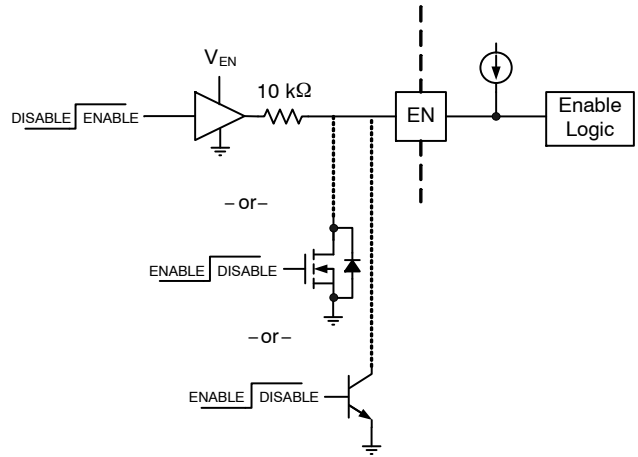

Figure 27. Enable Circuits: Push-Pull, Open-Drain, or Open-Collector
The device has an enable pin (EN) with internal 50 μA pullup current. This gives the user the option of driving EN with a push-pull or open-drain/collector enable signal. When driving EN with an external logic supply a 10 kΩ series current limiting resistor must be placed in series with EN. See Figure 27. The maximum enable threshold is 3.4 V. If no external drive voltage is available, the internal pullup can be used to enable the device, and an open drain/collector input, such as a MOSFET or BJT can be used to disable the device. A capacitor connected between EN and ground can be used with the internal pullup current source to provide a fixed delay to turn-on and turn off. See Equation 1.